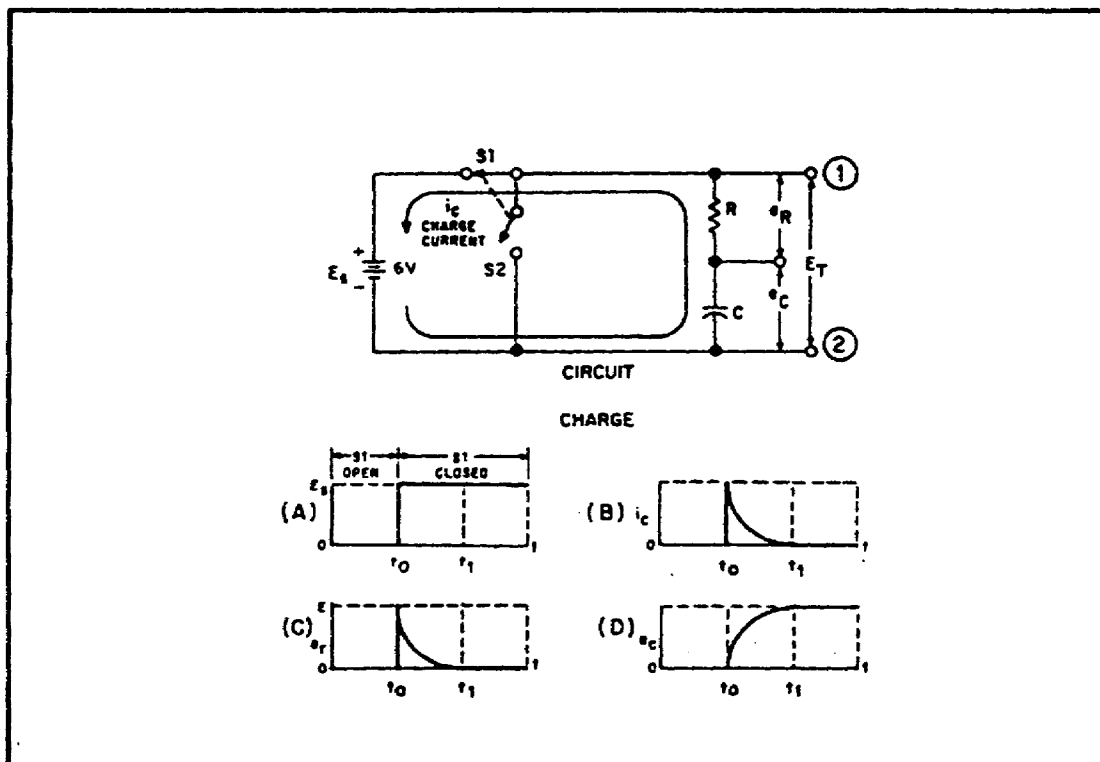
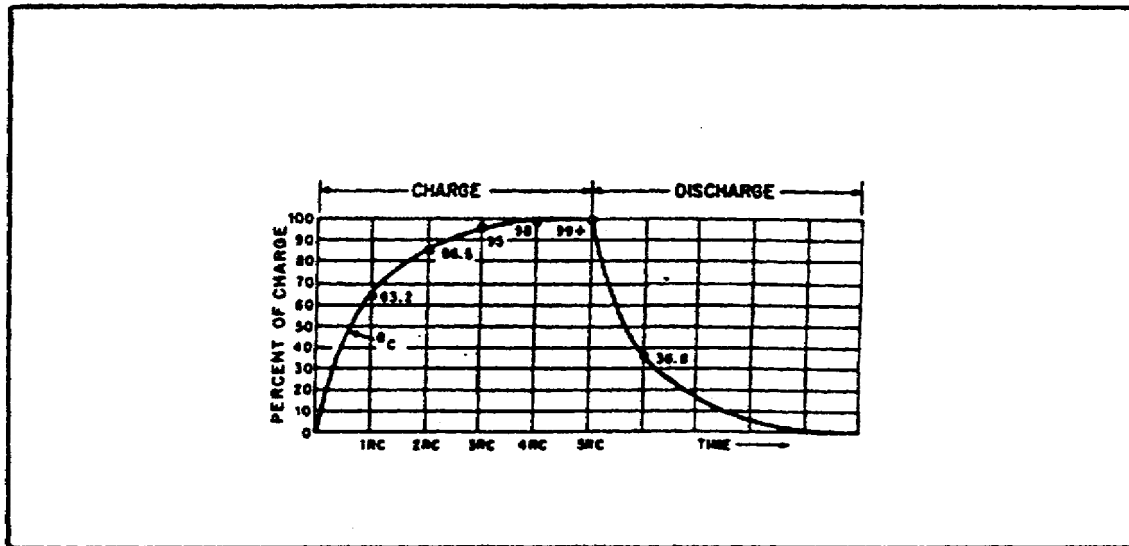

FIGURE 34. CHARGE OF AN RC SERIES CIRCUIT.
FIGURE 36. RC TIME CONSTANT.
(1) *Charge Cycle.* A voltage divider containing resistance and capacitance is connected in a circuit by means of a switch, as shown at the top of figure 34 on the following page. Such a series arrangement is called an RC series circuit
When switch S_1 of the circuit in figure 34 is closed at t_0 , the source voltage (E_s) is instantly felt across the entire circuit. Graph A, figure 34, shows an instantaneous rise at time t_0 from zero to source voltage ($E_s = 6$ volts). The total voltage can be measured across the circuit between points 1 and 2. Now look at figure 34, graph B, which represents the charging current in the capacitor (i_c). At time t_0 , charging current is MAXIMUM. As time elapses forward time t_1 , there is a continuous decrease in current flowing into the capacitor. The decreasing flow is caused by the voltage buildup across the capacitor. At time t_1 current flowing in the capacitor stops. At this time, the capacitor has reached full charge and has stored maximum energy in its electrostatic field. Figure 34, graph C, represents the voltage drop (e_r) across the resistor (R). The value of e_r is determined by the amount of current flowing
It should be remembered that capacitance opposes a change in voltage. This is shown by comparing figure 34, graph A to graph D, on the previous page. In graph A, the voltage changed instantly from 0 volts to 6 volts across the circuit., while the voltage developed across the capacitor in figure 34, graph D took the entire time interval from t_0 to time t_1 to reach 6 volts. The reason for this is that In the first instant at time t_0 , maximum current flows through R and the entire circuit voltage is dropped across the resistor. The voltage impressed across the capacitor at t_0 is zero volts. As time progresses toward t_1 , the decreasing current causes progressively less voltage to be dropped across the capacitor (C). At time t_1 , the voltage across the capacitor is equal to the source voltage (6 volts), and the voltage dropped across the resistor (R) is equal to zero. This is the complete charge cycle of the capacitor.
i. *RC Time Constant.* The time required to charge a capacitor to 63% (actually 63.2%) of maximum voltage, or to discharge it to 37% (actually 36.8%) of its final voltage is known as the TIME CONSTANT (TC) of the circuit. The charge and discharge curves of a capacitor are shown in figure 36. Note that the charge curve is like the curve in figure 34, graph 1), on page 53, and the discharge curve like the curve in figure 34, graph B.
The graphs shown in figures 36 and 37 on pages .57 and 58, respectively, are not entirely correct. That is, the charge or discharge (growth or decay) will not quite complete in $5 RC$ or $5 \frac{L}{R}$ time constants. However, when the values reach 0.99